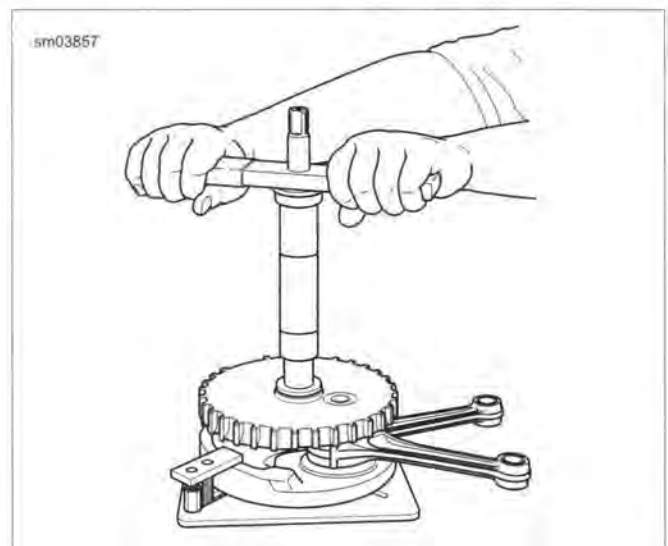

Figure 3-126. Press Inner Race onto Sprocket Shaft: Operation
5. See Figure 3-126. Rotate handle of tool clockwise until bearing inner race makes firm contact with thrust washer. Verify that thrust washer cannot be rotated by hand.